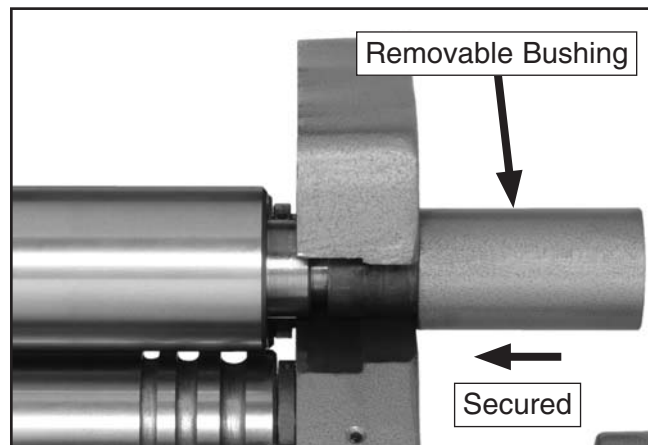

Figure 33. Securing top roller (T21324 shown).
4. Move the top roller back into position and slide the removable bushing in to secure the top roller (**Figure 33**).